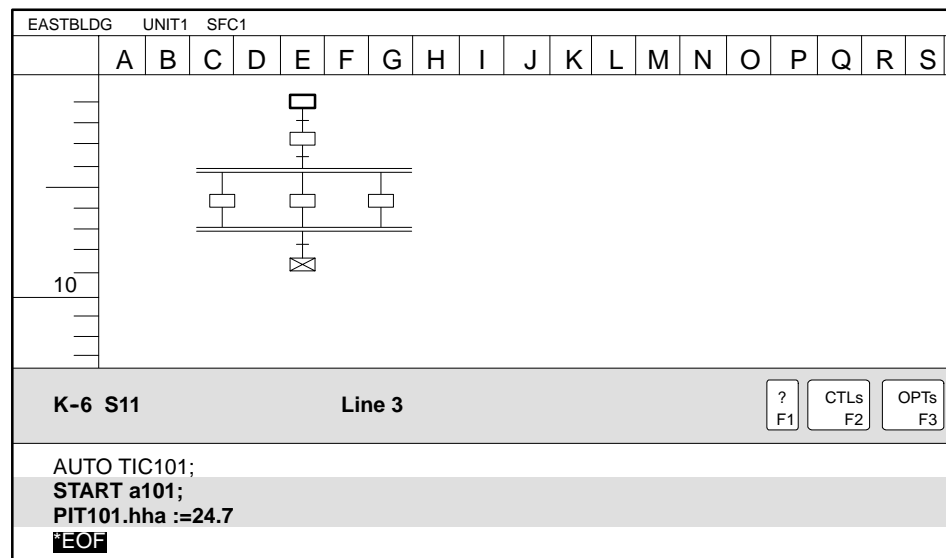

Figure 4-7 Marking a Block of Text
3. Move the cursor until the colored box includes all the text that you want to mark. See Figure 4-7.